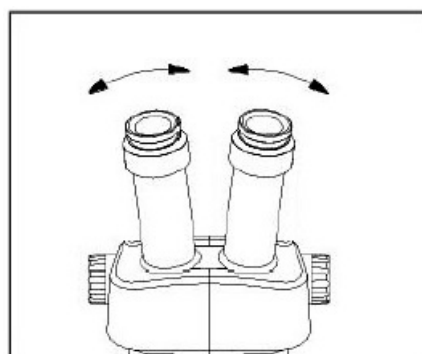

Fig. 5
- Adjusting Interpupillary Distance (Fig. 5)